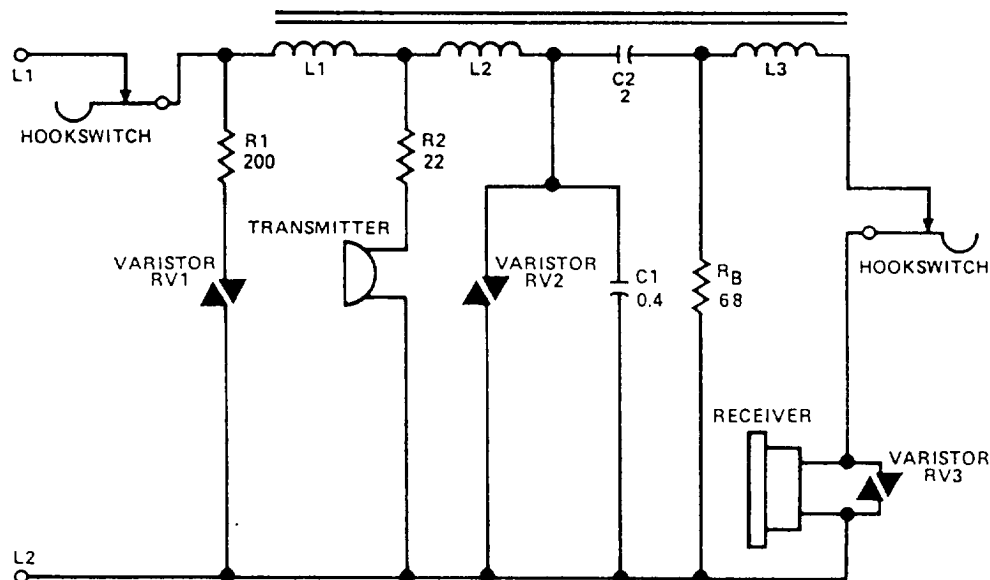

Figure 6-14.—Simplified schematic diagram of the network assembly circuit.
**NETWORK ASSEMBLY.**— Figure 6-14 is a simplified schematic diagram of the network assembly